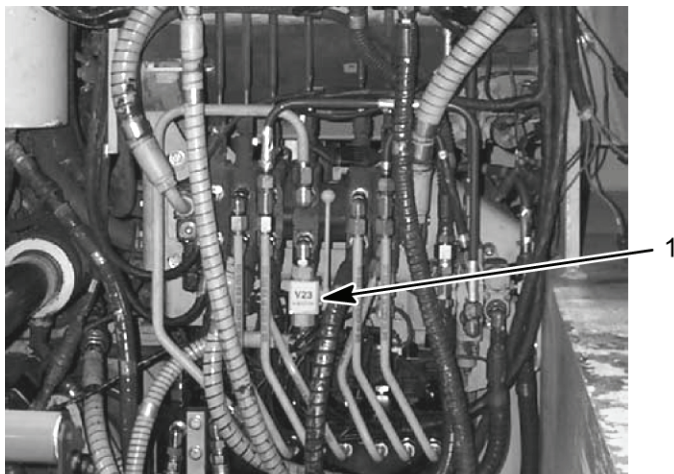

Figure 4. DCV Bank
- Disable ejector by manually closing the ejector inhibit ball valve V23 (Figure 4, item 1) on the DCV bank. Using LINE UP or LINE DOWN button (Figure 5, item 3), select V1 on the HDC display (Figure 5, item 2). Close V1 on the HDC display (Figure 5, item 2) by selecting the CHANGE POSITION button (Figure 5, item 4) on the HDC control box.